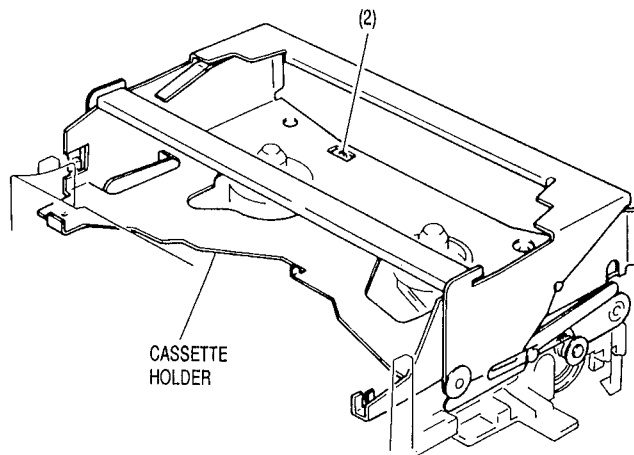

Fig. 3-2
- 2) Release 1 tab (2) and lift up the cassette holder. (See Fig. 3-2)